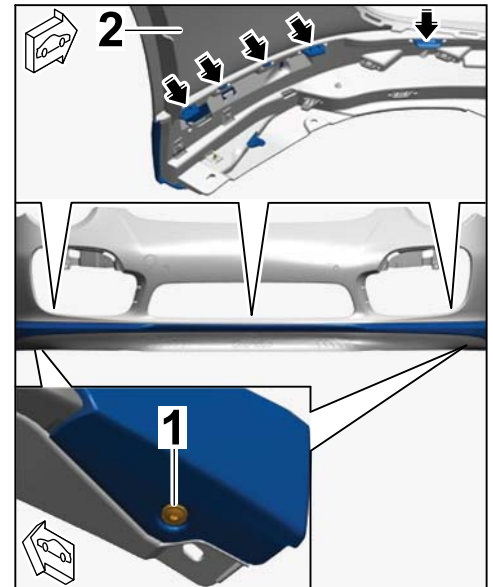

Figure 9
2.4.2 Clip new spoiler trim into the front apron (⇒ *Figure 9*).
2.4.3 Fit screws (2 x) securing spoiler trim to front apron (⇒ *Figure 9*).